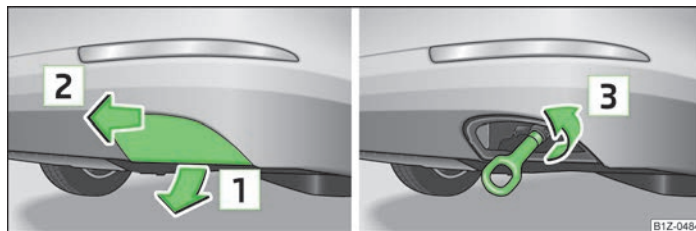

Fig. 157 Rear bumper: removing the cap/rear bumper: Installing the towing eye
- Unlock the bottom part of the cap by pulling it downwards in direction of arrow **1** » Fig. 157.